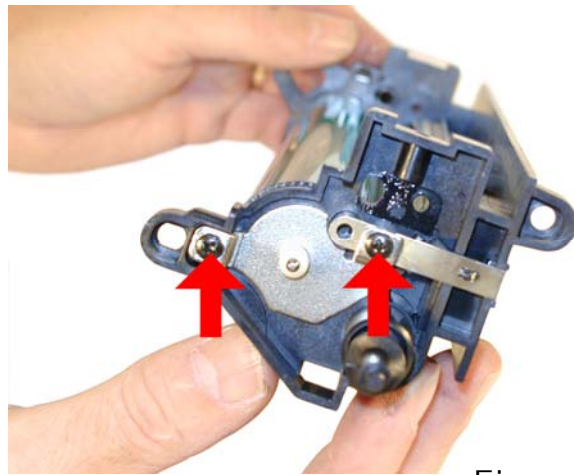

Figure 46
39) Install the drum axle plate and screws. See **Figure 46**